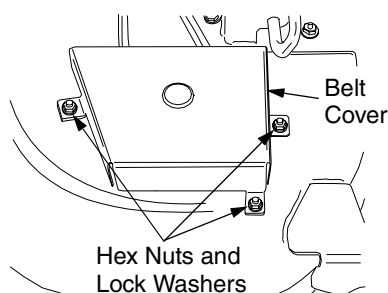

Figure 49
1. Remove the RH and LH belt covers by removing the six hex nuts and lock washers (See Figure 49).